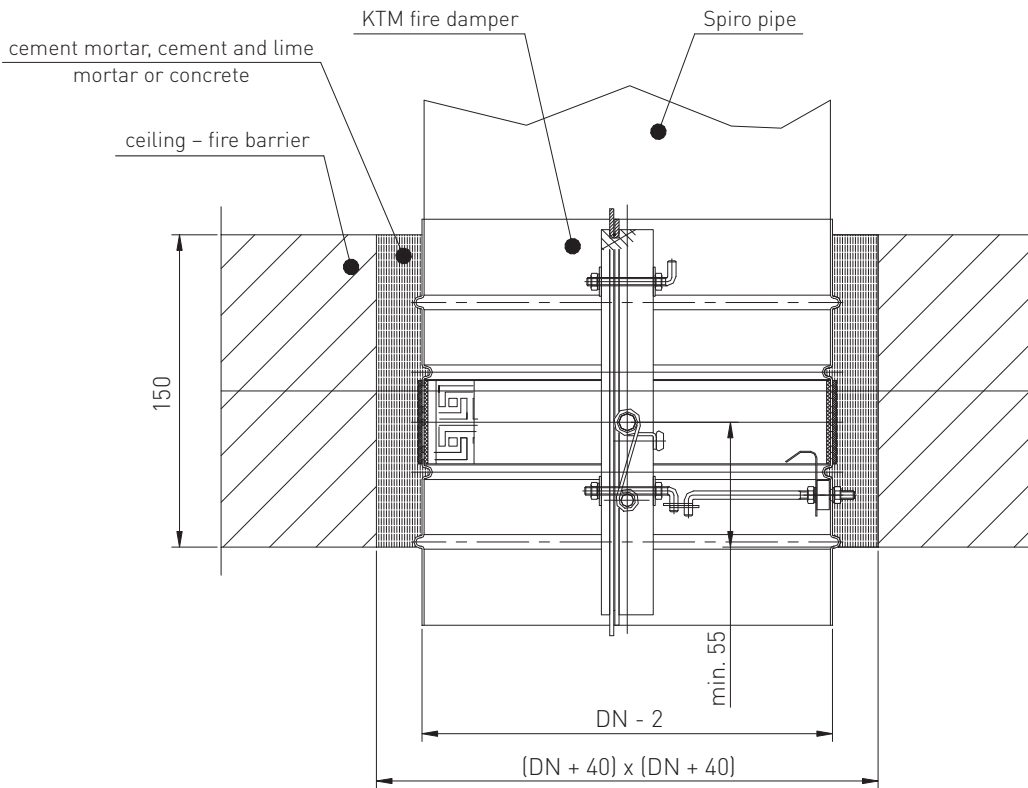

Figure 8. Installation of KTM fire damper (male coupling) in rigid ceiling partition
3. After setting the fire damper in accordance to the guidelines, fill the gap between the fire damper and the ceiling with cement mortar, cement and lime mortar or concrete. If there is a need, before filling the gap, connect the male coupling version of fire damper with the spiro pipe (fig. 8).